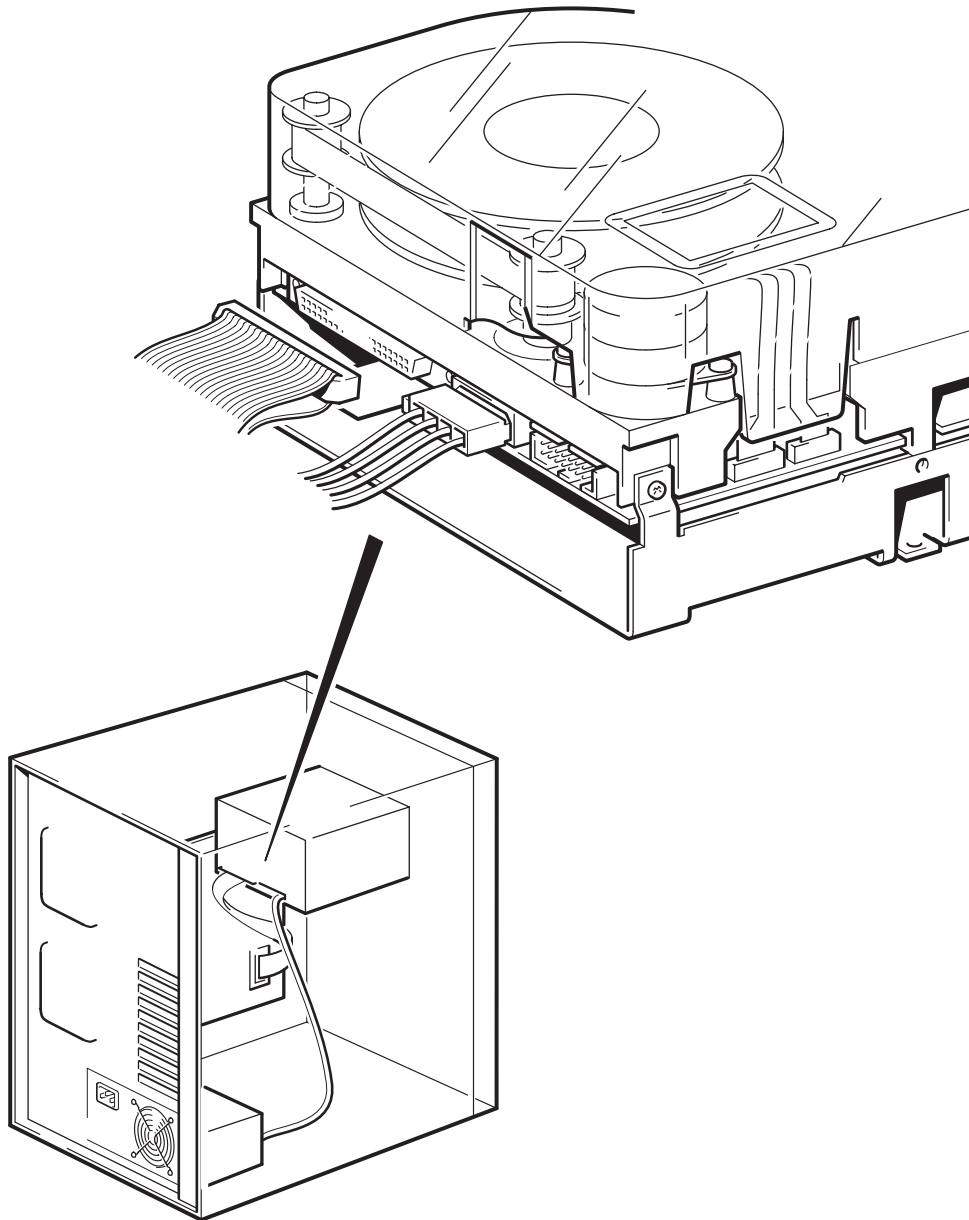

Figure 5: attaching SCSI and power cables to internal drive
- 1** Attach a spare power cable from the computer's internal power supply to the power connector, as shown in figure 5.
- 2** Attach a spare SCSI cable on the computer's SCSI ribbon cable to the SCSI connector, as shown in figure 5.